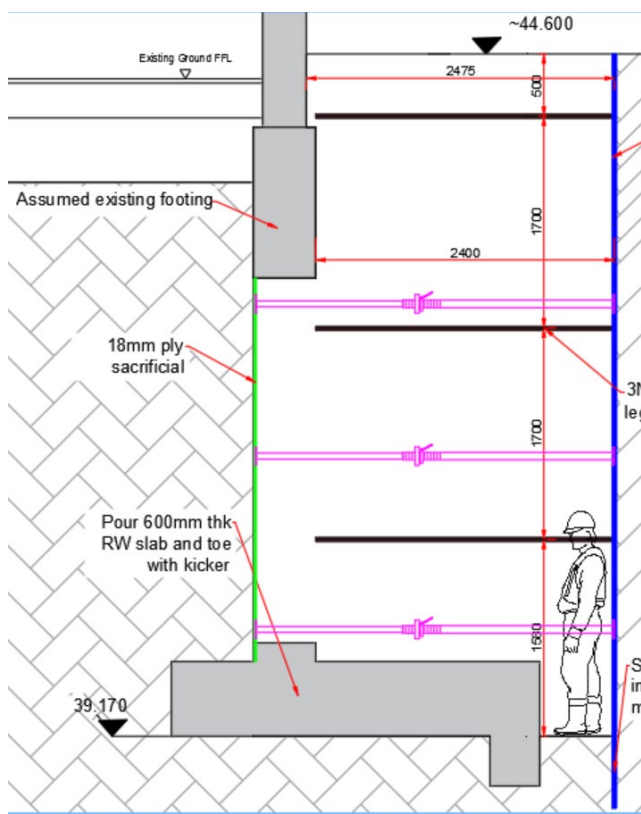

Figure 4 RW slab with kicker poured
10. The formwork of the slab and toe can be installed, and the slab poured together with the kicker as per Fig 4.